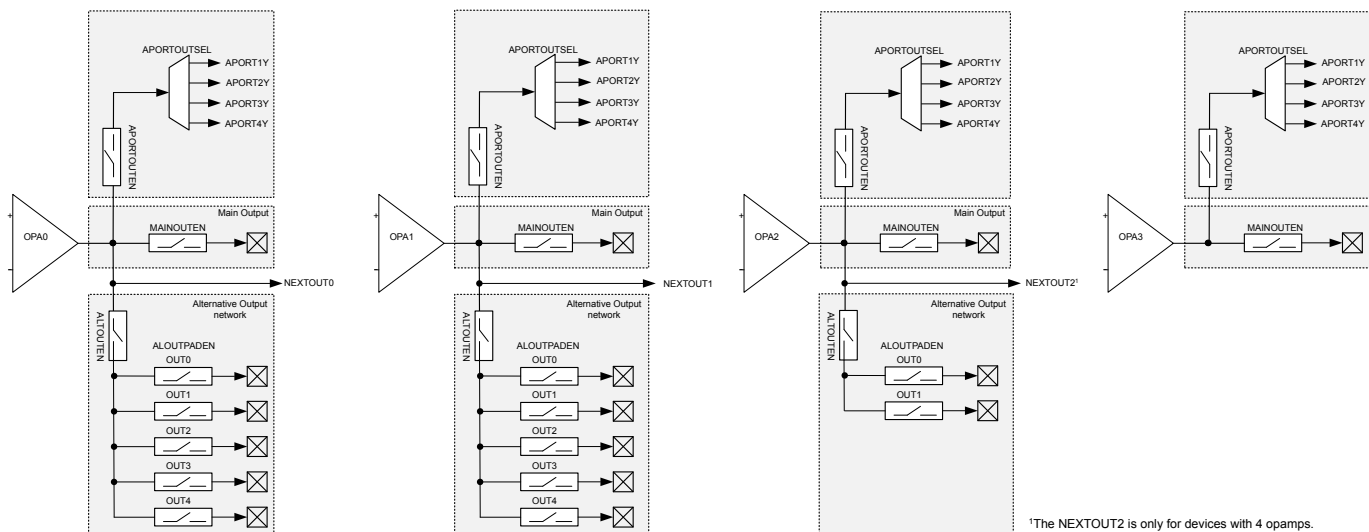

Figure 3.3. An Output Stage Overview of the Series 1 Operational Amplifier
Each opamp has three outputs: the main output, an alternative output network with lower drive strength, and an APORT output with low drive strength. These three outputs can be configured as shown in Figure 3.3 An Output Stage Overview of the Series 1 Operational Amplifier on page 8.
2. The alternative output network consists of connections to pins which can be individually enabled by configuring ALTOUTPADEN bitfield in VDACn_OPAX_OUT register (see Figure 3.3 An Output Stage Overview of the Series 1 Operational Amplifier on page 8).